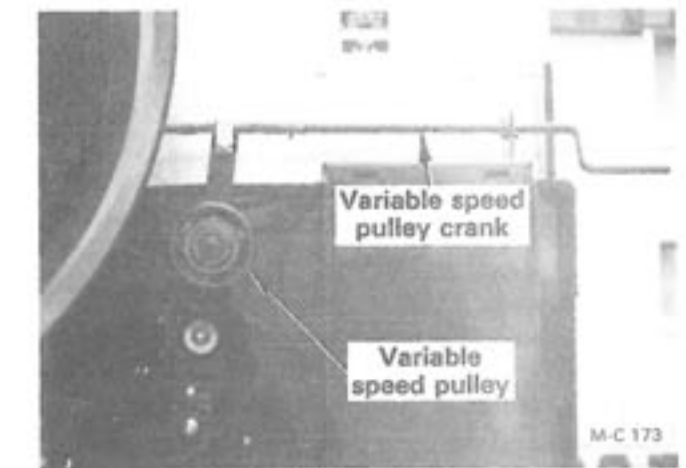
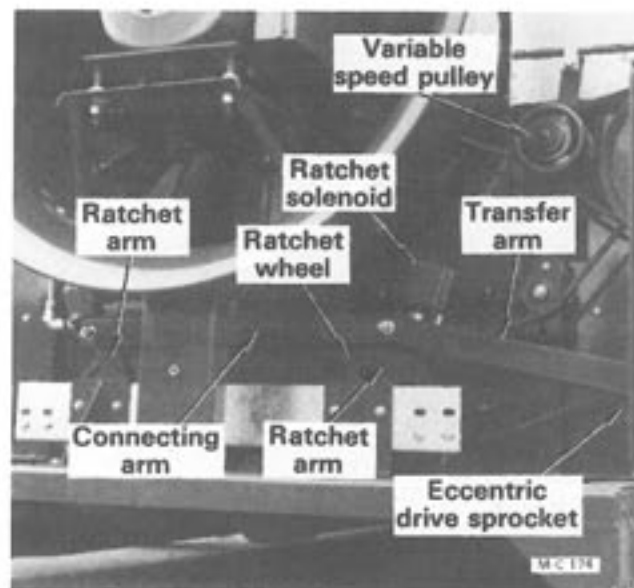

Figure 9
Figure 7
4. To correct this, speed up the unloading rate by adjusting the variable speed pulley, see Figure 9. Turn the crank clockwise until the moisture control activates the ratchet solenoids (on and off) intermittently so that the grain metering rolls discharge dried grain 90% of the time.
CAUTION: The guards were removed in Figure 9 to provide a clear illustration. Do not operate the dryer without guards in place and secure.
1. The variable speed pulley, Figure 9, controls the speed of the unloading auger and the rate of speed that the two grain metering roll ratchet arms move back and forth, see Figure 7.
3. Turn the variable speed pulley crank clockwise to speed up the grain unloading rate. Turn the variable speed pulley crank counterclockwise to slow down the grain unloading rate, see Figure 9. Adjust the variable speed pulley only when the dryer is operating.
CAUTION: The guards were removed in Figure 7 and 8 to provide clear illustrations. Do not operate the dryer without guards in place and secure.
- Both ratchet arms are connected together with the connecting arm and the left ratchet arm is connected to the eccentric drive sprocket with the transfer arm, see Figure 7.
- The transfer arm, Figure 7, controls the length of the ratchet arm stroke.